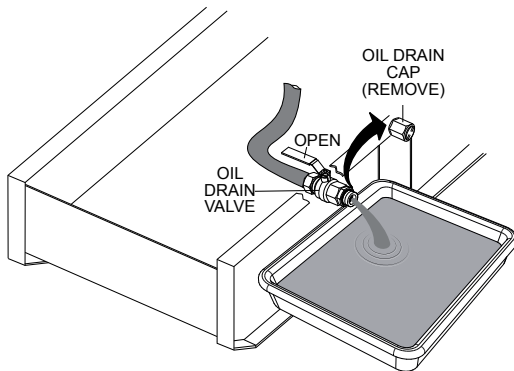

Figure 64. Draining Engine Oil
3. Next, remove **oil drain cap** (Figure 64).